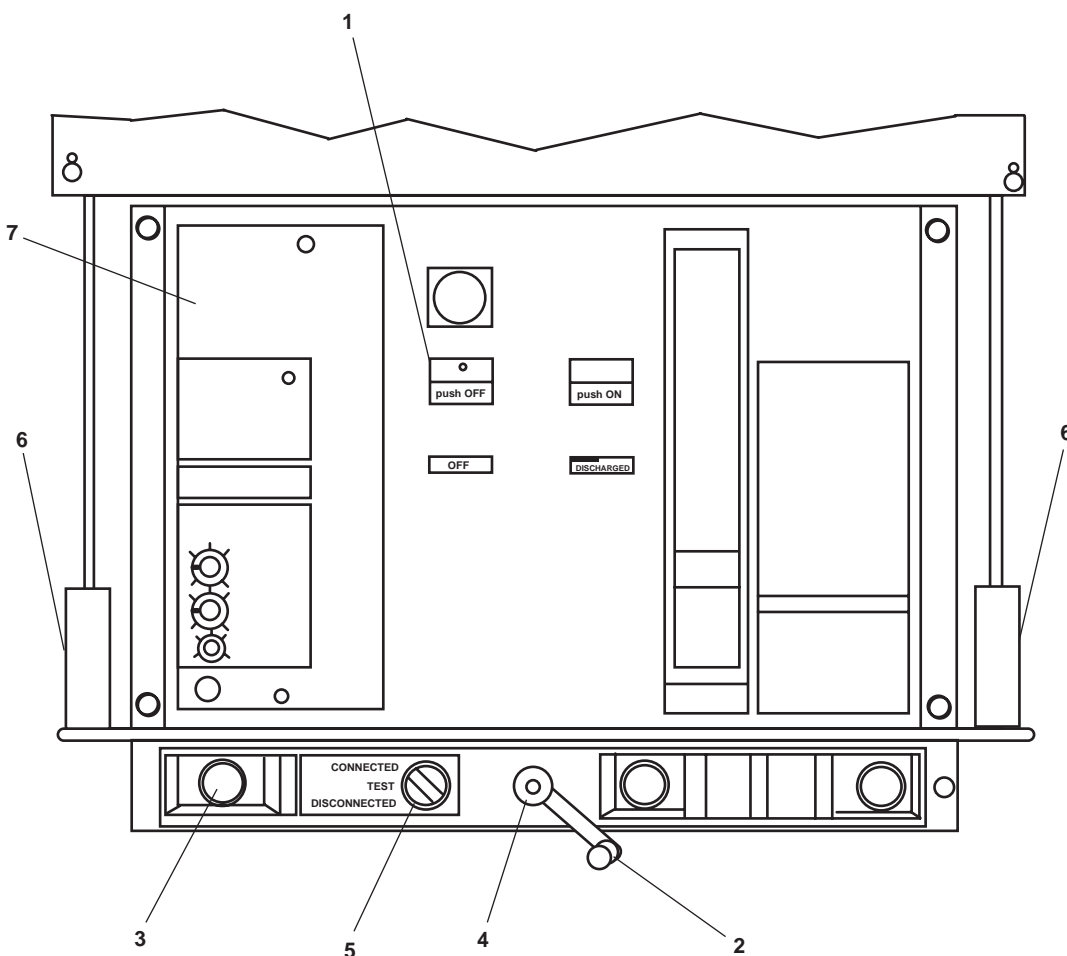

Figure 2. EDG Circuit Breaker
3. Press the OFF switch (figure 2, item 1) on the circuit breaker face.
4. Remove the crank (figure 2, item 2) from the storage slot (figure 2, item 3).
5. Insert the crank (figure 2, item 2) into the cranking slot (figure 2, item 4).
6. Turn the crank (figure 2, item 2) until the dial (figure 2, item 5) indicates DISCONNECTED. Remove the crank from the slot (figure 2, item 4).
7. Grasp the latches (figure 2, item 6) firmly and pull the circuit breaker (figure 2, item 7) forward until the tracks are fully extended.
8. Remove the circuit breaker (figure 2, item 7) by lifting the circuit breaker straight up from the tracks.
1. Position the circuit breaker (figure 2, item 7) on the tracks.
2. Grasp the latches (figure 2, item 6) and manually push the tracks in until they reach the track stop position.
3. Insert the crank (figure 2, item 2) into the cranking slot (figure 2, item 4).
4. Turn the crank (figure 2, item 2) until the circuit breaker (figure 2, item 7) is completely seated and the dial (figure 2, item 5) indicates CONNECTED.
5. Continue turning the crank (figure 2, item 2) until two clicking sounds are heard, indicating the circuit breaker (figure 2, item 6) is locked in the connected position.
6. Remove the crank (figure 2, item 2) and stow in the storage slot (figure 2, item 3).